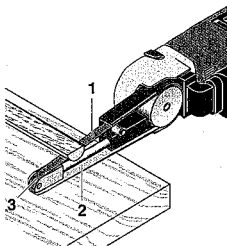

Fig. 3
2. The grinding surface 2 (Fig. 3) is particularly suitable for processing plane surfaces. Curves are best processed with grinding surface 1. Surface 3 is suitable for operations in narrow apertures and cavities.